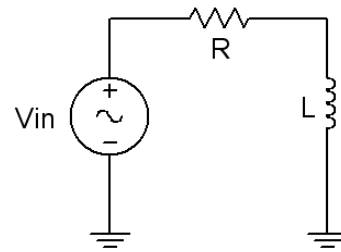

Figure 6.2
7. Replace the capacitor with the 10 mH inductor (i.e. Figure 6.2), and repeat steps 1 through 6 in like manner, using Tables 6.3 and 6.4.
4. In general, how would the phasor diagram of Figure 6.2 change if the frequency was lowered?